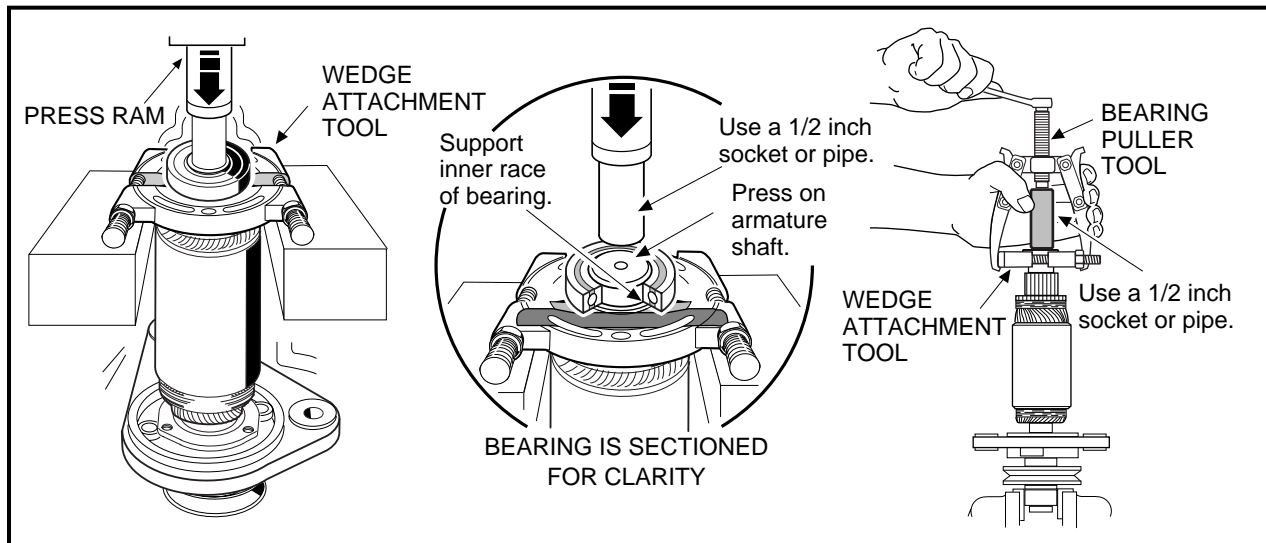

Figure 12-10 Bearing Removal
1. Place the wedge attachment tool (Club Car Part No. 1012812) between the bearing and the armature. Make sure the wedge attachment tool is supporting the inner race of the bearing. If a press is not available, secure a bearing puller (Club Car Part No. 1012811) to the wedge attachment tool and pull the bearing off of the end of the armature shaft. Support the armature so that it will not drop when the bearing is removed (**Figure 12-10, Page 12-7**).